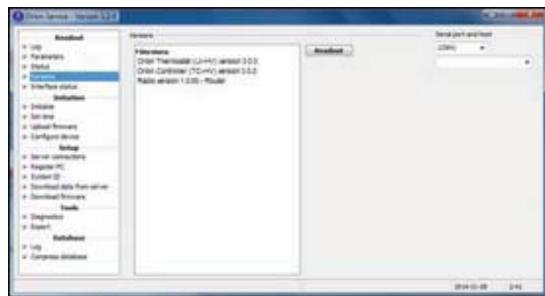

Figure 7
- In *Orion Service* (see Figure 7): choose the **Versions** alternative and click the **Readout** button. See *Quick reference guide Orion Service* for more information about the software.